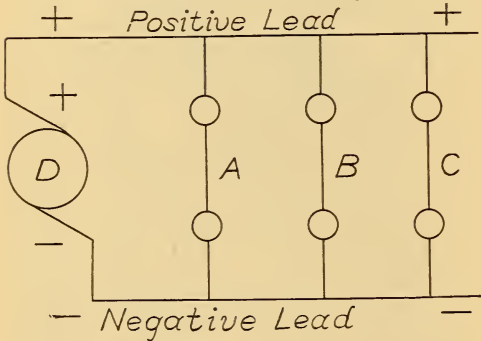
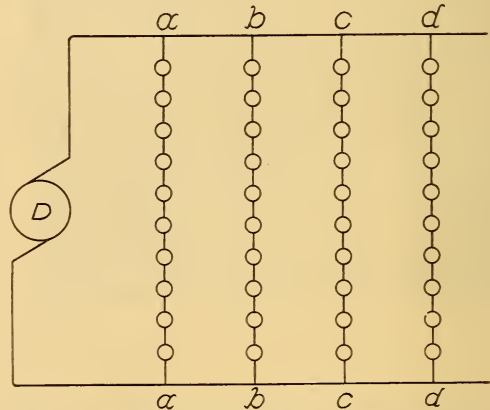
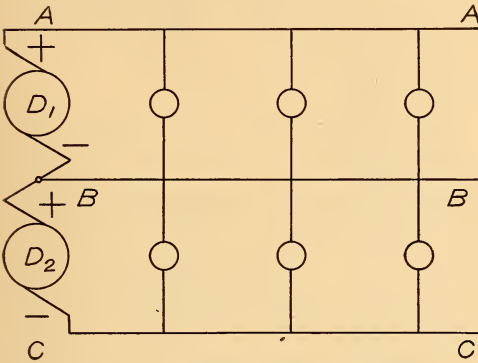

FIG. 18. MULTIPLE-SERIES CIRCUIT OF INCANDESCENT LAMPS.
FIG. 19. MULTIPLE-SERIES OR MUNICIPAL SYSTEM.
FIG. 20. THREE-WIRE SYSTEM.
A multiple-series circuit is represented in Fig. 18. Here, the dynamo (D) has its positive and negative brushes connected with the positive and negative leads. Six incandescent electric lamps are connected in series in three separate groups (A), (B) and (C), of two lamps each, and these groups are then connected in multiple across the positive and negative leads as shown. This circuit is called a multiple-series circuit because it consists of a multiple of series connected circuits.
The separate series connected groups of a multiple-series circuit, may consist of more than the two lamps in each of the groups (A), (B) and (C) of the preceding figure. For example, Fig. 19, (Fig. 129, p. 376, Houston & Kennelly's "Incandescent Lighting"), shows a multiple circuit of 40 incandescent electric lamps connected in four separate groups of 10 series-connected lamps each, that are then connected in multiple across the mains of the dynamo (D). This sys-
This difficulty would be even more pronounced if an attempt were made to employ the multiple-series circuit represented in Fig. 18; for here, if one of the lamps in any of the separate groups (A), (B) and (C) is cut out, the other lamp would certainly receive too strong a current. While in point of fact, multiple-series circuits are extensively employed for the lighting of interiors, yet it is a modification of the circuit shown in Fig.
In order to change the multiple-series circuit, a system shown in Fig. 18, into a three-wire system, it is only necessary to replace the single dynamo (D) by two dynamos, as shown in Fig. 20 (Fig. 56,
lamps (A), (B) or (C), can be replaced by two or more series-connected lamps, such as shown in Fig. 18. Or each of four separate lamps in any multiple circuit may be replaced by the 10 series-connected lamps, as in the groups (aa), (bb), (cc) and (dd), of Fig. 19. As soon as this is done, the multiple circuit becomes a multiple of series circuits or a multiple-series circuit, since it then consists of separate series groups connected to the mains in multiple.